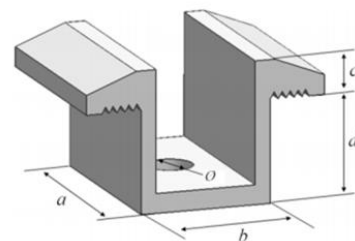
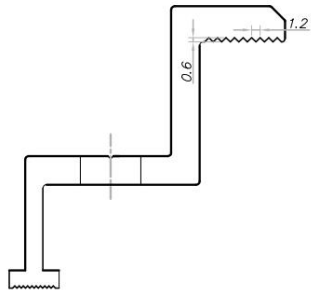
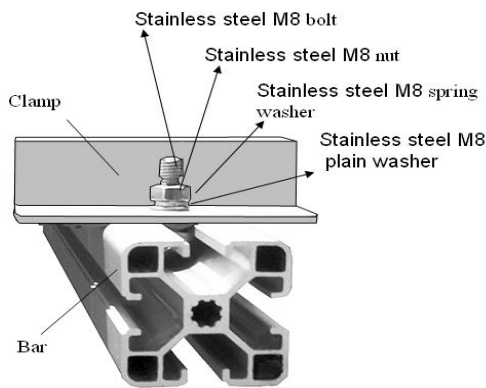
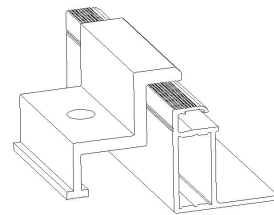

Fig. 8 Schematic diagram of the mid clamp
Fig. 9 Schematic diagram of cross section of the fringe clamp
Fig. 10 Schematic diagram of the fringe clamp
Fig 11 Schematic diagram of the frame and the clamp cooperating with each other
- ② Be sure to avoid shadowing effects from the module clamps. Weep holes on the module frame must not be closed or obscured by the clamps. The clamp must have at least 9mm but no more than 12mm overlap with the frame of the module (The clamp section can be changed under the premise of ensuring reliable installation).
- ③ The top surface of the rail contacted with module frame should be equipped with grooves compatible with an M8 bolt.
- ④ If the grooves are not provided, holes of a suitable diameter may need to be drilled to allow bolts attaching to the rail at the same locations as mentioned above.
- ⑤ Ensure that the mounting sequence of each clamp is in the order of flat washer, spring washer and nut.
- ⑥ There are two types of clamps, the mid clamp shown in Fig. 8 and the fringe clamp shown in Fig. 9 and Fig. 10. The mid clamp has dimensions of $a \geq 60\text{mm}$, $b \geq 26\text{ mm}$, $c \geq 5\text{ mm}$, $d \geq 28\text{ mm}$, $\text{Ø} = 9\text{ mm}$. The tightening torque is suggested to be 17~23Nm for Class 8.8 screw and bolts.
⑦ To prevent modules from coming off the fixed device after installation, it is suggested to choose fringe and mid clamps and make contact with the A side of the frame with groove patterns. Suggest to have 9 patterns with a space between 2 adjacent patterns of 1.2mm and a depth of 0.6mm, as shown in Fig. 9. The A side of the frame has the same groove patterns, which can cooperate with the clamp, as shown in Fig 11.